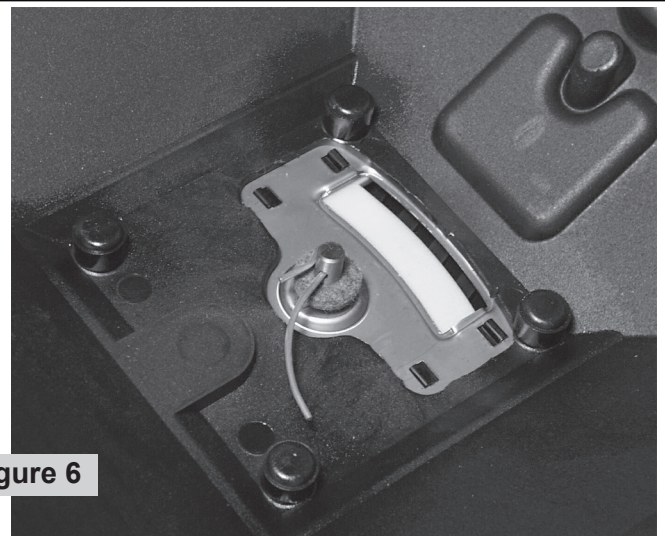

Figure 6
9. Slide felt washer over spinner shaft, Figure 6. Insert Agitator wire by sliding through the hole in the spinner shaft as shown. **IMPORTANT:** Note orientation of agitator wire when installing.